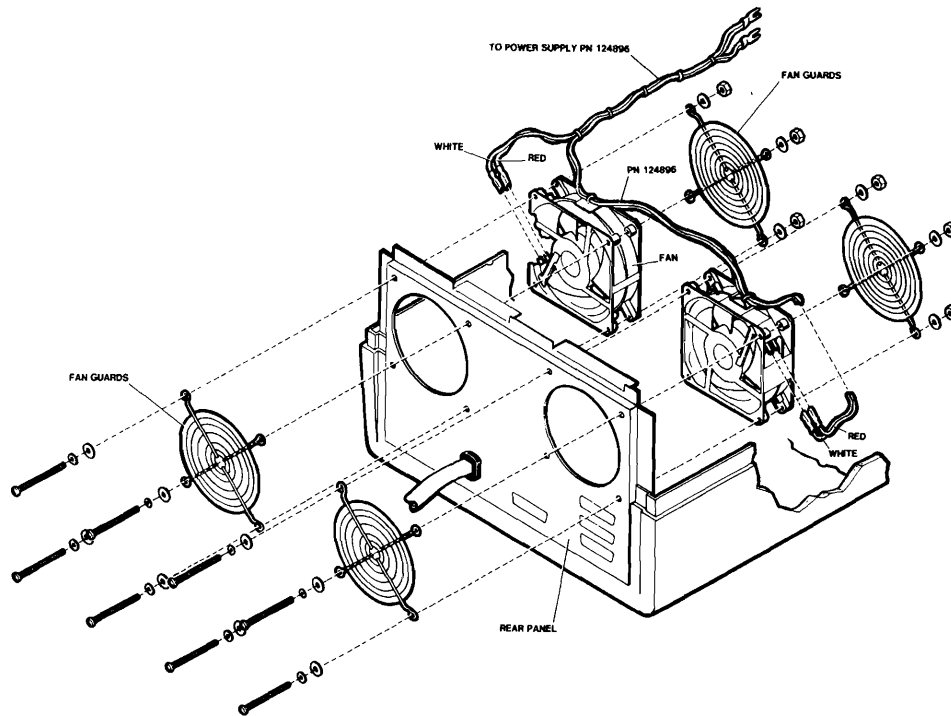

Figure 4-7. Fan Removal
2. Refer to figure 4-7 and remove the four long screws holding the fan housing to the rear panel and guide the fan housing out of the chassis.